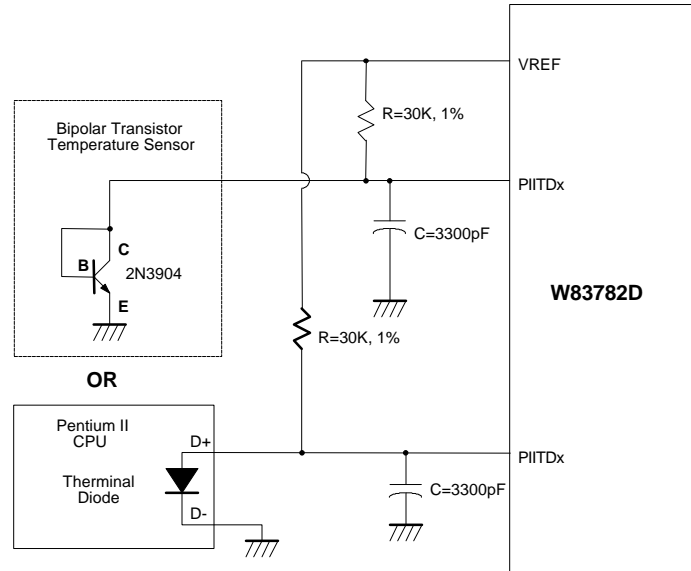

Figure 12.
The W83782D can alternate the thermistor to Pentium II™ (Deschutes) thermal diode interface or transistor 2N3904 and the circuit connection is shown as Figure 12. The pin of Pentium II™ D- is connected to power supply ground (GND) and the pin D+ is connected to pin PIITDx in the W83782D. The resistor  $R=30K$  ohms should be connected to  $VREF$  to supply the diode bias current and the bypass capacitor  $C=3300pF$  should be added to filter the high frequency noise. The transistor 2N3904 should be connected to a form with a diode, that is, the Base (B) and Collector (C) in the 2N3904 should be tied together to act as a thermal diode.